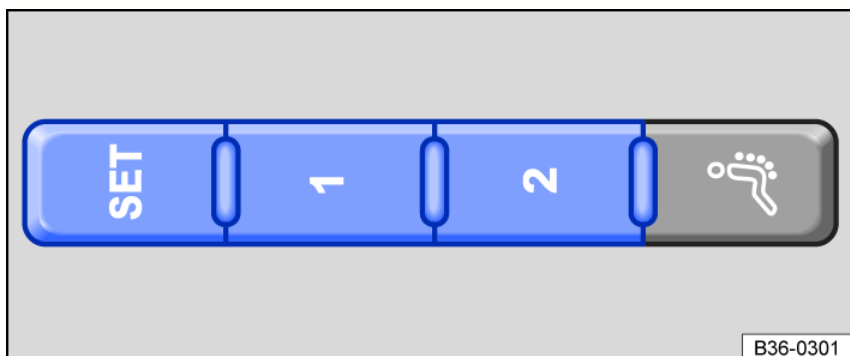

Fig. 91 On the outer side of the driver's seat: memory buttons.
- Press and hold the **SET** button for several seconds *fig. 91*.
- Press the desired memory button *fig. 91*.